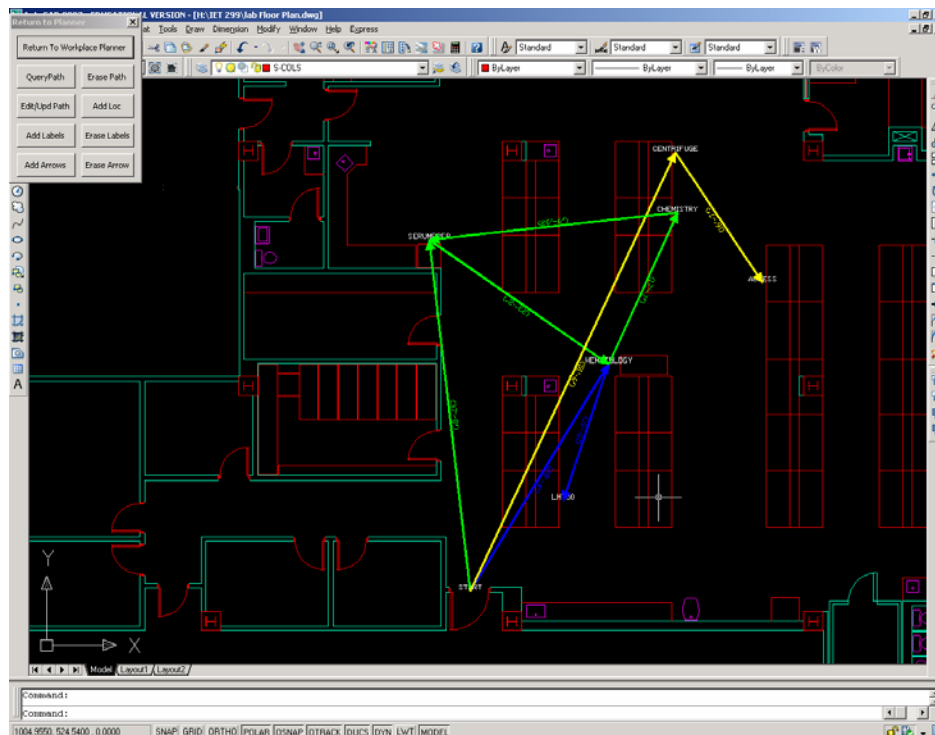

Figure 6
Step 6: Now the process is ready to be calculated. Click Calculate. The user will be prompted with a message saying “Some Locations are missing Select OK to add them.” Click OK. AutoCAD’s cursor will now prompt the user to select locations on the drawing. Place the location on the drawing where the operator will actually be working at, not just the general area. After establishing the last location, AutoCAD will automatically draw the paths. Notice how the paths created are cutting through walls and other inaccessible areas. This happens because WPP bases its calculation on the fact that the shortest distance between two points is a straight line. (See Figure 6)